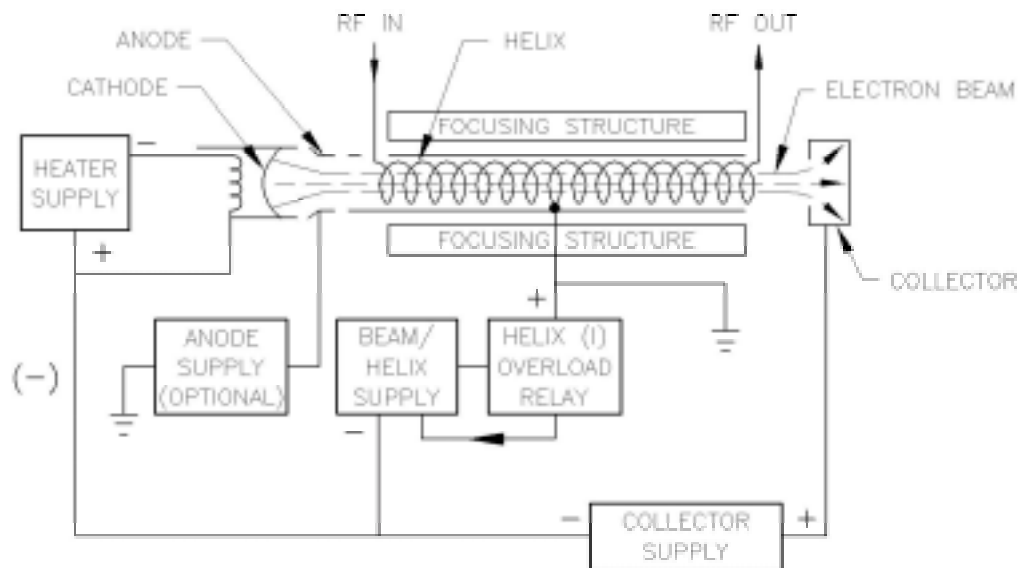

FIGURE 1
- Figure 1 - CW: No control electrode; single collector with anode supply.
- Proper connections of dc leads, particularly ground, per appropriate Figure 1, 2, 3 or 4.